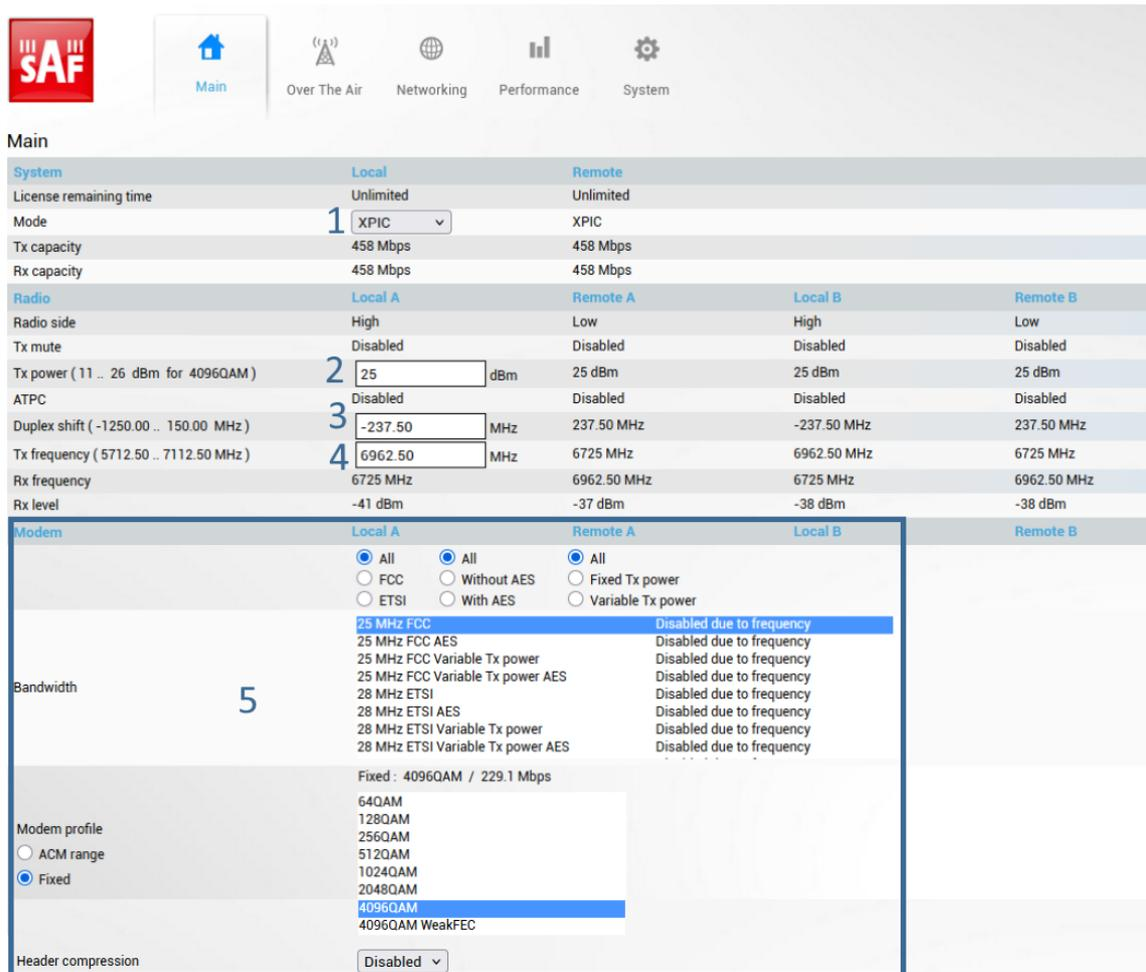

Figure 6-30 4+0 Integra-X/X2 XPIC link with internal aggregation main page configuration
STEP1: Main parameter configuration on the Main page, please see *Figure 6-30*.
- 2 to 5 – For items 2, 3, 4, and 5, refer to the *XPIC mode* section.